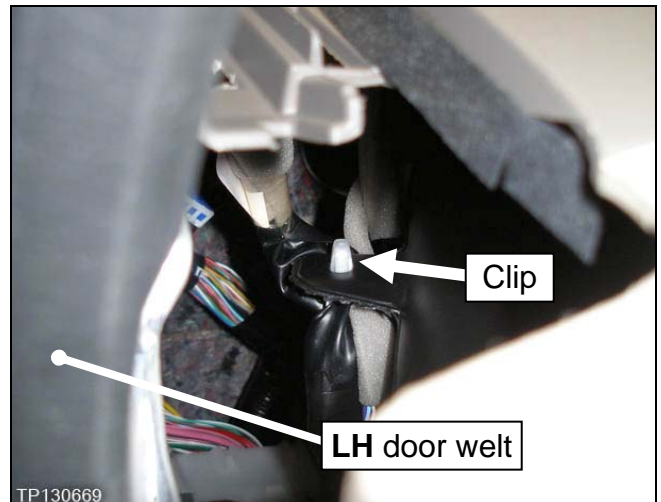

Figure 65
54. Unfasten the LH tweeter harness clip from the duct (see Figure 65).
- Figure 65 is looking in the end of the driver side IP partially pulled out.